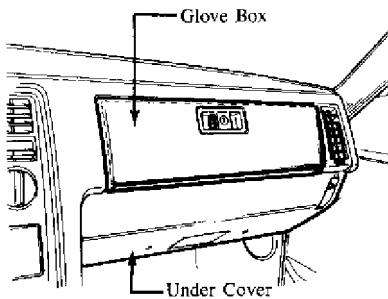

Fig. 1: Removing Glove Box & Under Cover
2. Remove the glove box and the under cover. See Fig. 1.